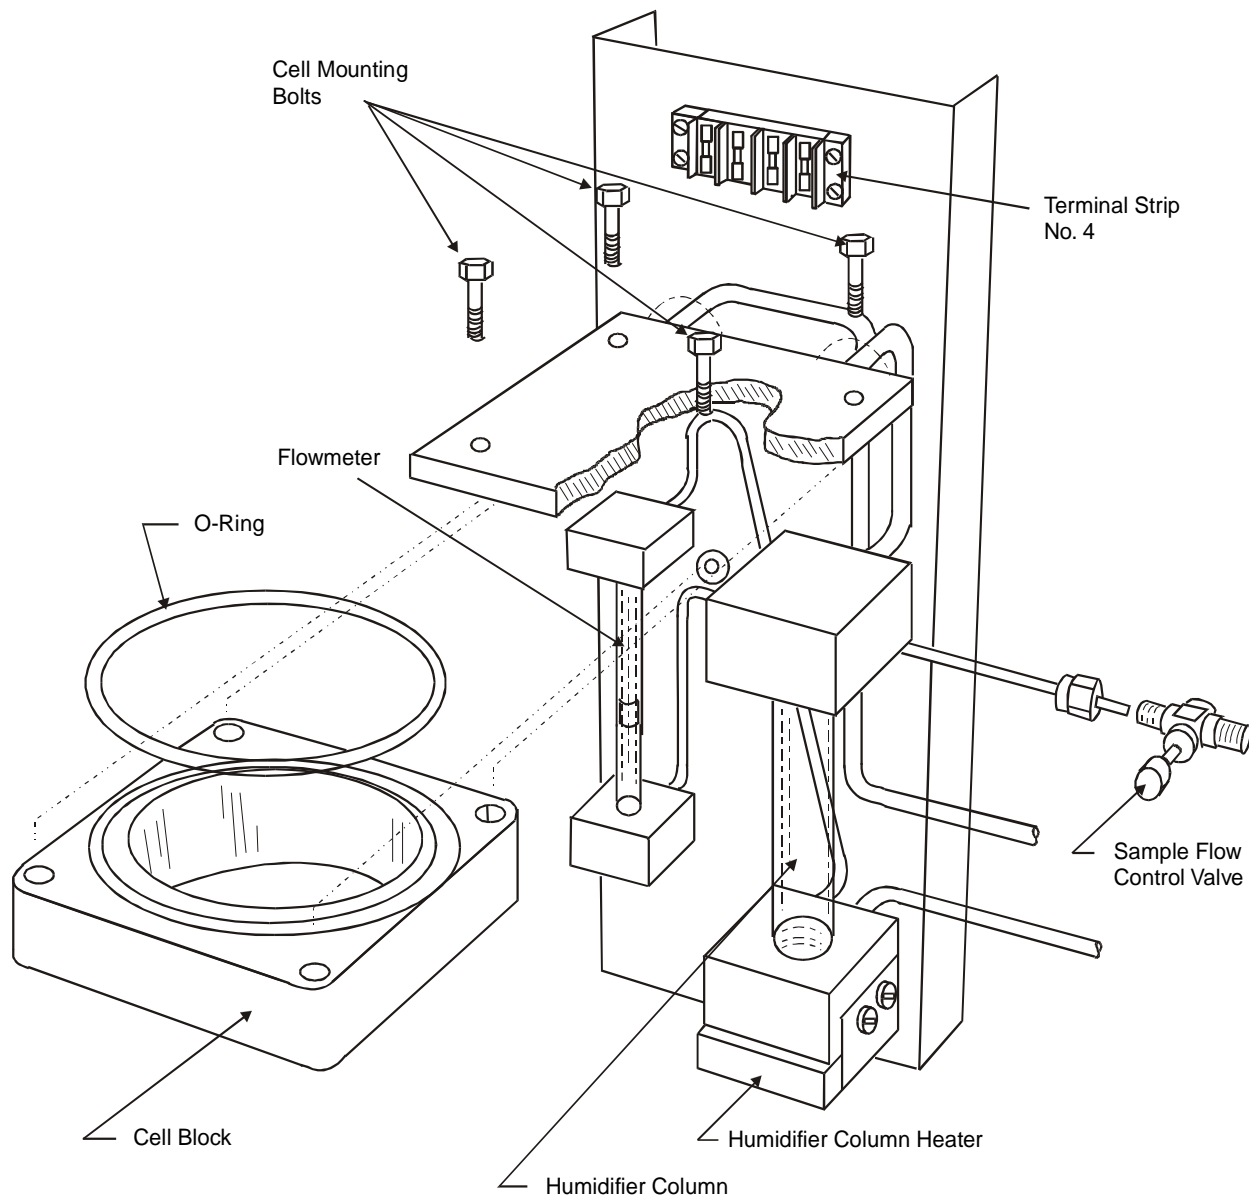

Figure 4-2: Cell Compartment Components
- 5) Carefully place the cell under the cell mounting plate with the outer terminal toward the front. Secure in place with four bolts supplied with the cell. Refer to Figure 4-2.